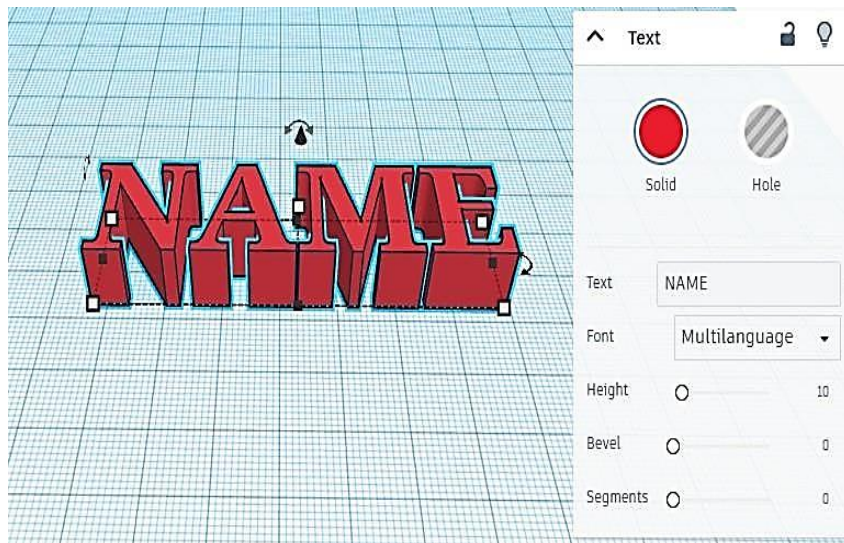

Fig. 4.16: Insert the Name
5. Type in your first name in the text box in the shape menu appears. If your first name is long, you may need to click and drag the side of your box to make it longer (Fig. 4.16).